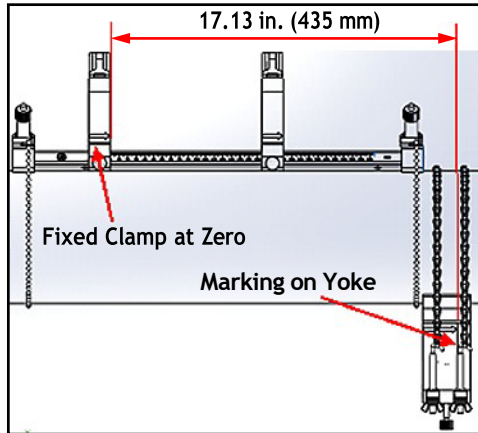

Figure 29: Yoke Set at 435 mm/17.13 in.
- Spacing  $>305$  mm/12 in. (435 mm/17.13 in. is used as an example): Measure the required 435 mm/17.13 in. distance from the edge of the fixed clamp to the marked line on the yoke (see Figure 29 below).